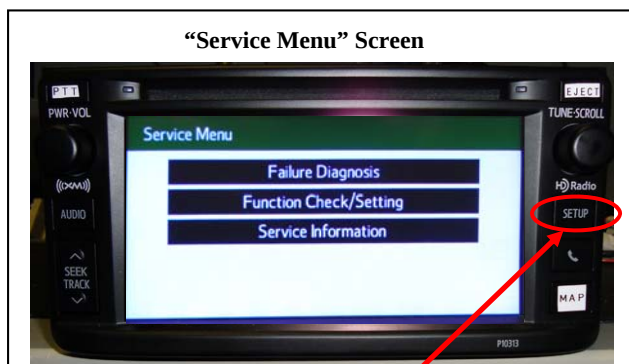

Fig. 9-7 Press and Hold "Setup" H/K
- (2) The Service Menu screen will appear (Fig. 9-7).
- (3) If the Service Menu screen does not appear, repeat Steps 1 and 2.
- (4) With the Service Menu screen shown, press and hold the "SETUP" H/K (Fig. 9-7). Wait for the radio to restart, then release the "SETUP" H/K.
- (5) Turn ACC OFF.
- (6) Turn ACC ON.
- (7) Go back and repeat the "Map Function Test" in the "In Process Function Tests" section.